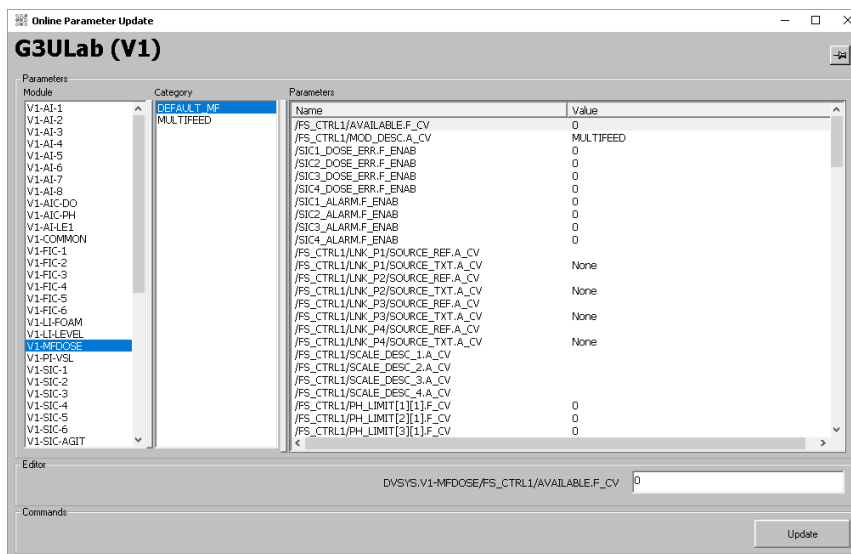

Figure 4.44. Dosing alarm enabled.
4. In the “Parameters” column, locate the Name string **/FS_CTRL1/AVAILABLE.F_CV**. Click the string to highlight it (Figure 4.44).